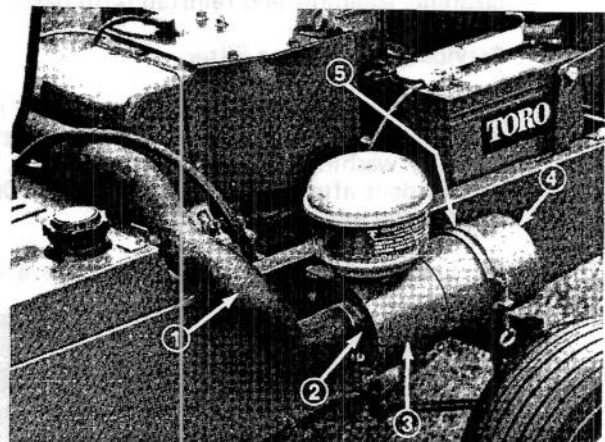
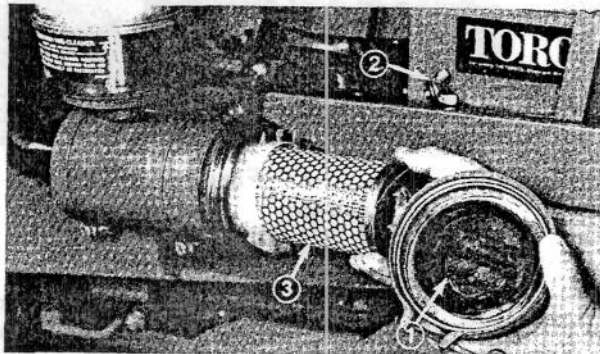

Figure 66
Figure 68
1. Make sure hose between air cleaner and carburetor is clamped securely in place. Replace the hose if it is cracked or punctured (Fig. 66).
2. Check air cleaner body for dents and other damage which could possibly cause an air leak. Replace a damaged air cleaner body (Fig. 66).
baffle (Fig. 66). Remove baffle from cap, clean dirt from cap and re-install baffle (Fig. 68).
2. Remove wing nut w/gasket and slide filter element out of air cleaner body (Fig. 68).